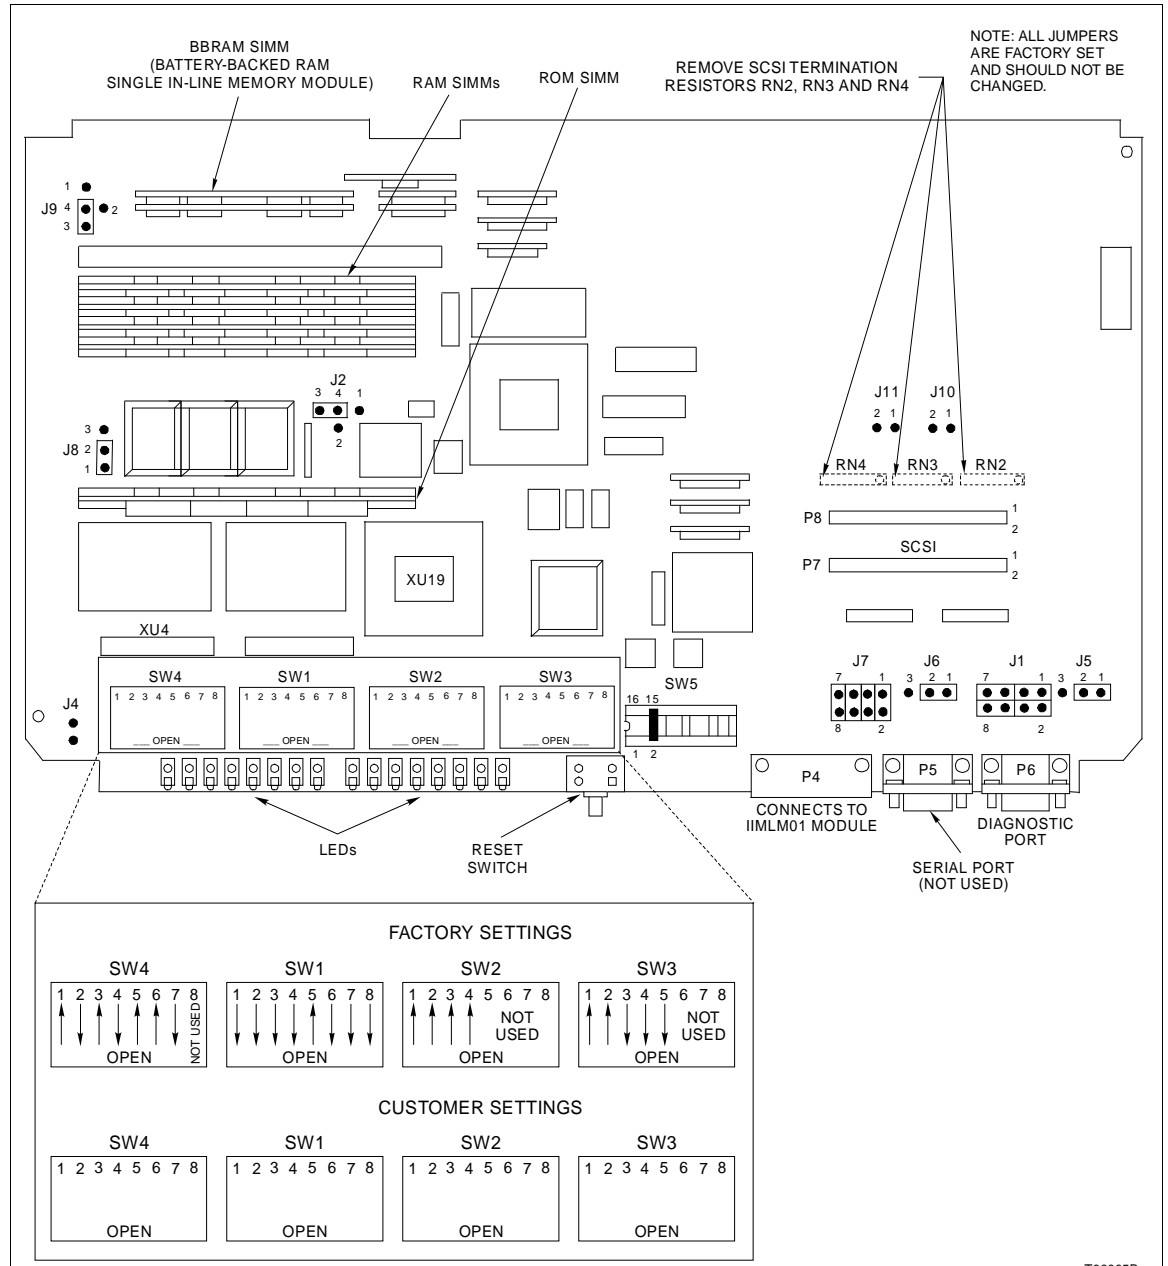

Figure PR35-3. IIMCP02 Module
- 6. Refer to Figure PR35-3 and Table PR35-1 and set the jumpers and switches as desired, filling in the customer settings in Figure PR35-3 and Table PR35-1.
1. The settings shown in Figure PR35-3 and the bold entries in Table PR35-1 indicate factory default settings.
2. The jumper settings shown in Figure PR35-3 are factory set and should not be changed; however, verify that they are in their correct positions.